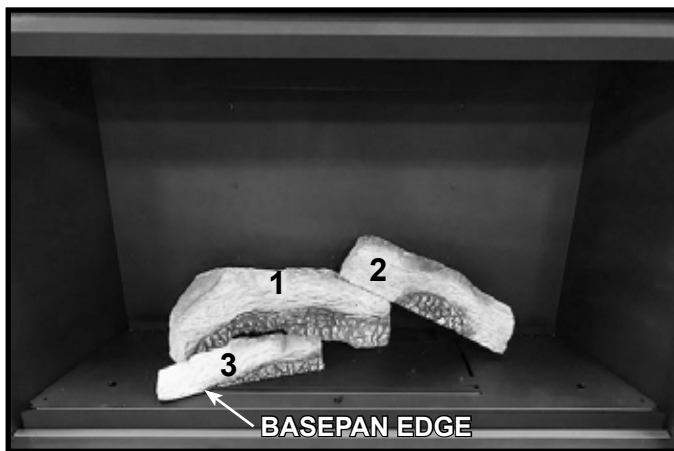

Figure 6. Install Log #3
- LOG #3:** Locate and install Log #3 by installing the "right" end of the log over the left burner pin and pressing "down" to engage log pin. Rotate Log #3 counterclockwise until it contacts the base pan edge as shown in Figure 6.